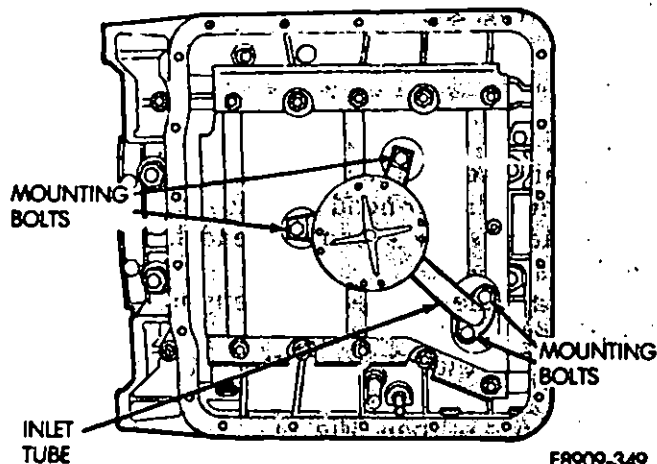

Fig. 2—Oil Pump Inlet Tube
- (1) Remove the oil pump inlet tube mounting bolts (Fig. 2).
- (2) Remove the inlet tube (Fig. 2).